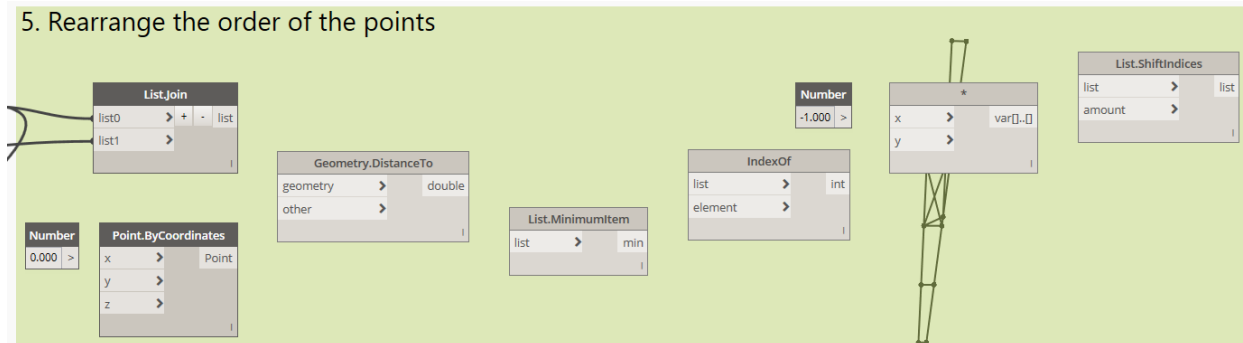

Figure 105
50. Position the nodes as shown in Figure 105.